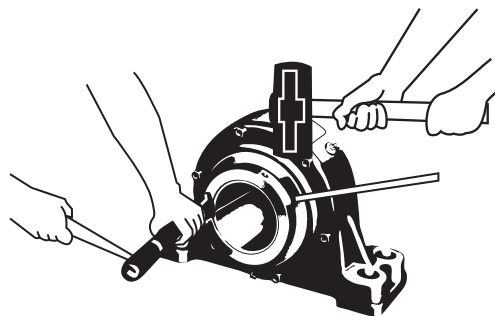

Figure 5
3. Tighten (turn clockwise) nut at open end of housing. Use sledge and brass bar as in Figure 5 to break the cones loose on the adapter, thus allowing the adapter to loosen on shaft.